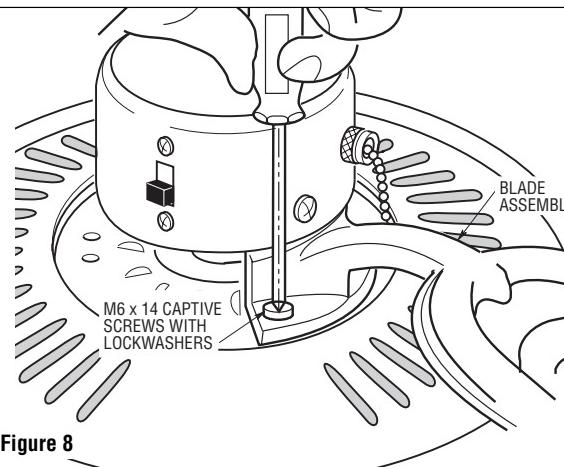

Figure 8
10. Loosely attach one blade assembly to the motor hub using two M6 x 14 captive screws with lockwashers. Make sure the screws are NOT tightened. (Figure 8.) Repeat this procedure for other four blade assemblies.